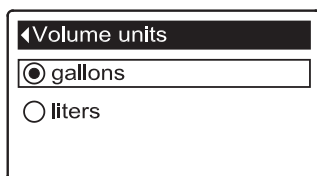

FIG. 111
5. Press the SELECT (O) button to display the Volume units menu (See Figure 111).
6. If the desired volume unit already has a black dot next to it (See Figure 111), go to Step 7. Otherwise, press the DOWN (▼) or UP (▲) buttons to scroll to the other volume unit, then press SELECT (O) to choose it.
7. Press the SELECT (O) button. The display will go back to the User preferences menu.